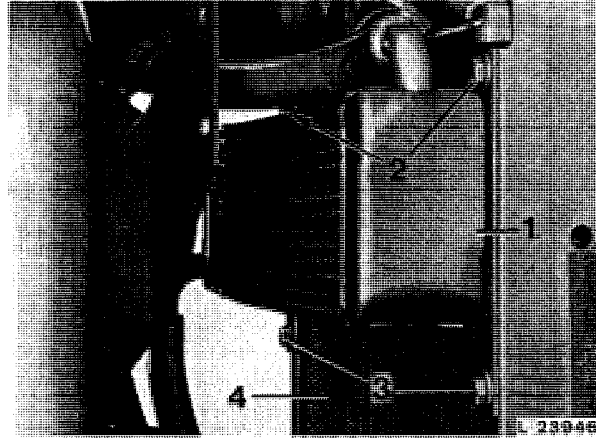

Fig. 6 – Radiator and Oil Cooler
2. Clean radiator and oil cooler. To clean portion of radiator behind oil cooler, remove cap screws 2 and 3 (fig. 6).